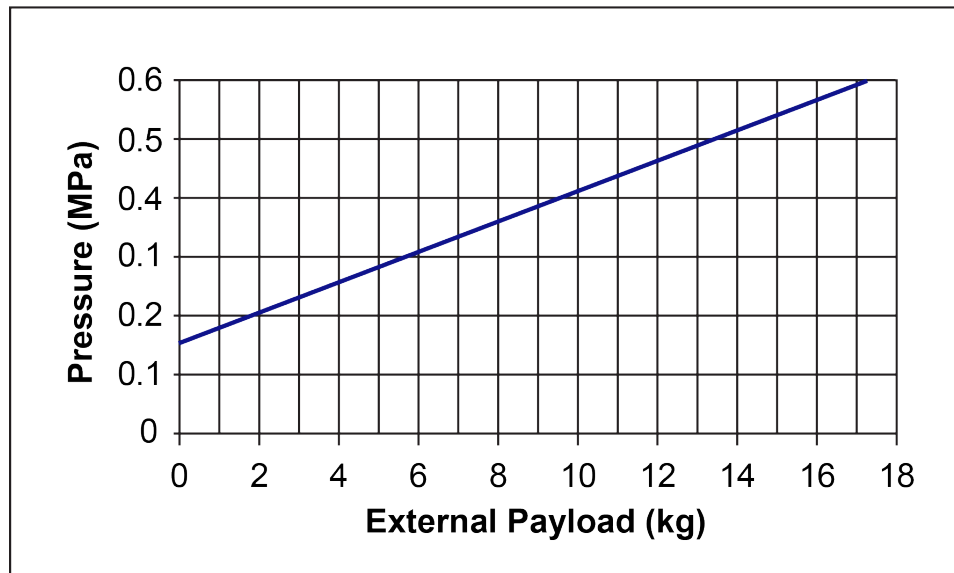

Figure 2-7: Counterbalance Pressure vs. External Payload
This relationship is shown graphically in Figure 2-7.
2. Turn on the air supply to both the air bearing stage and the pneumatic counterbalance. The pressure supply to the counterbalance fitting must exceed the pressure determined by Figure 2-7.
4. Estimate the pressure required to lift the payload using Figure 2-7.